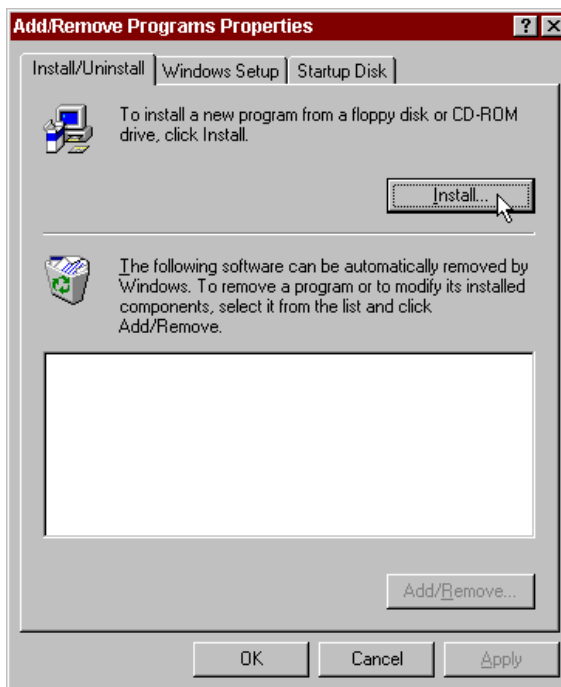

Figure 2-1. Add/Remove Programs Properties Dialog Box
2. Double-click on the **Add/Remove Programs** icon in the Control Panel to launch the Add/Remove Programs applet. A dialog box similar to the one in Figure 2-1 appears.